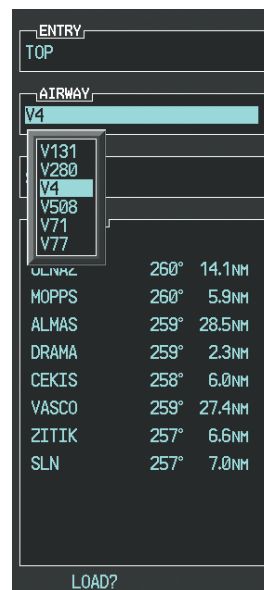

Figure 7-16 List of Available Airways for TOP
- f) Press the **LD AIRWY** Softkey to display the list of available airways for TOP as seen in Figure 7-16.
- g) Turn either **FMS** Knob to highlight V4 in the list as seen in Figure 7-16.